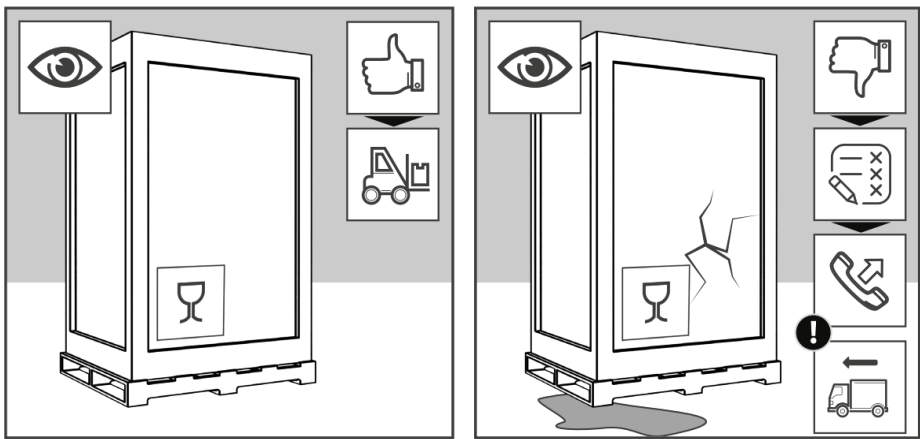

Fig. 9. Checking the integrity of the multideck packaging
- check the integrity of the package (Fig. 9);